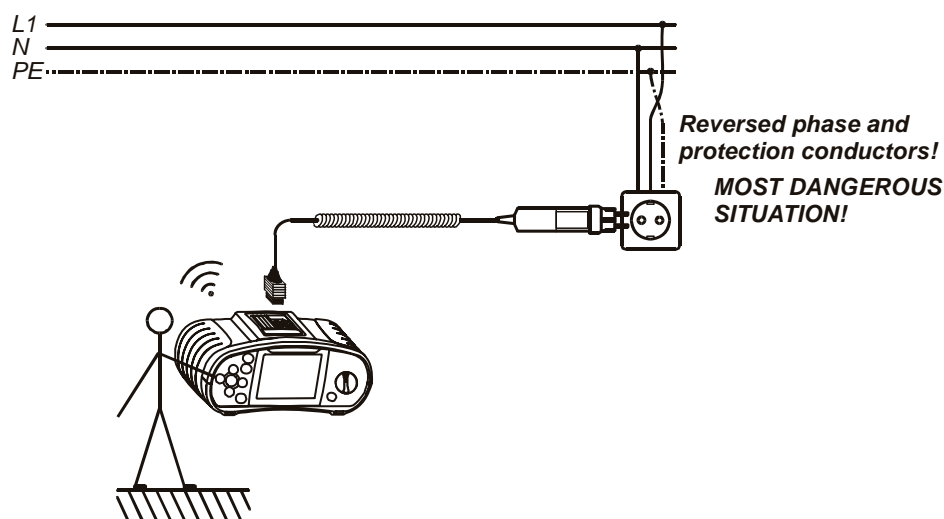

Figure 5.48: Connection of plug cable to mains outlet with reversed L and PE conductors
Step 2 Follow the connection diagrams shown in figures 5.48 and 5.49 to test PE terminal.